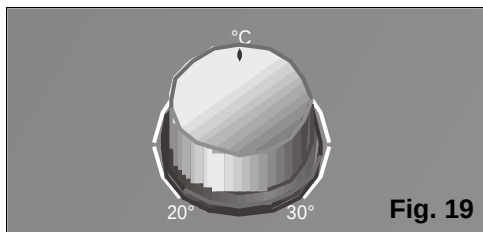

Fig. 19
- ☐ Set the thermostat to the desired temperature, **Fig. 19**. If the appliance turns itself off automatically because the temperature set for the room has been reached and, it is necessary to wait for ambient temperature to rise 2-3°C before it comes back on again.